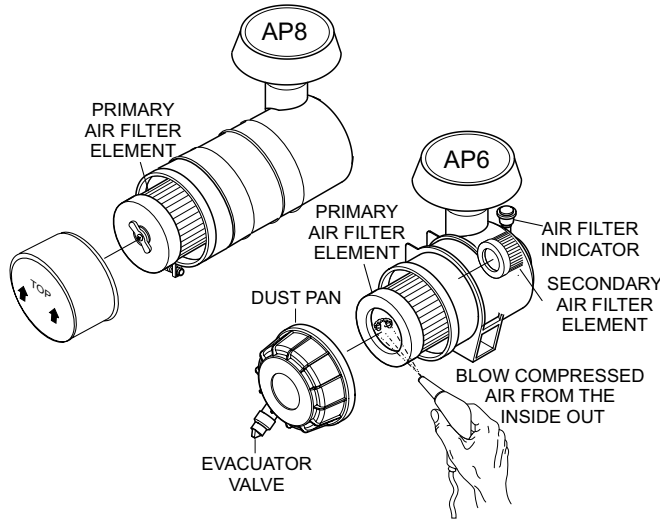

Figure 50. Air Filter
- To clean the main element (paper air filter) as referenced in (Figure 50), tap the filter element several times on a hard surface to remove dirt, or blow compressed air from the inside out (not to exceed 30 psi (207 kPa, 2.1 kgf/cm²).